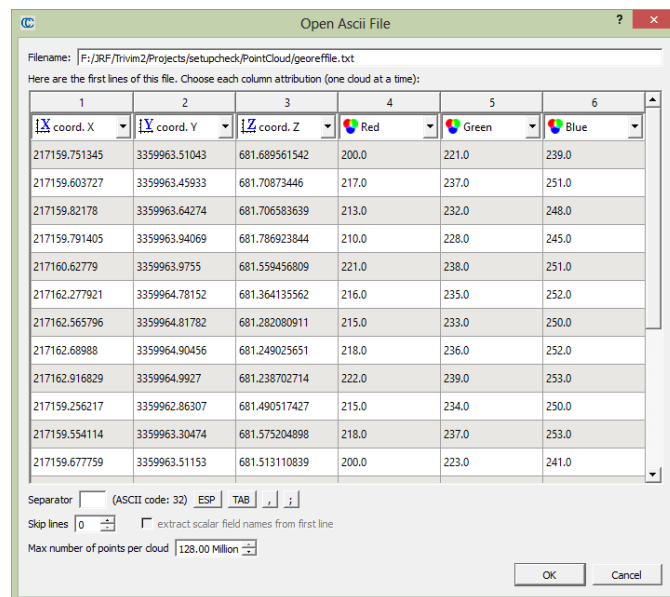

Fig 13: Specifying columns of coordinates and colour values
- Another window asking to specify the columns containing the coordinates and colour information will appear as shown in Fig 13.
- Specify the coordinates as per (X, Y, Z axes) and colour values as Red, Green and Blue as shown in Fig 13.